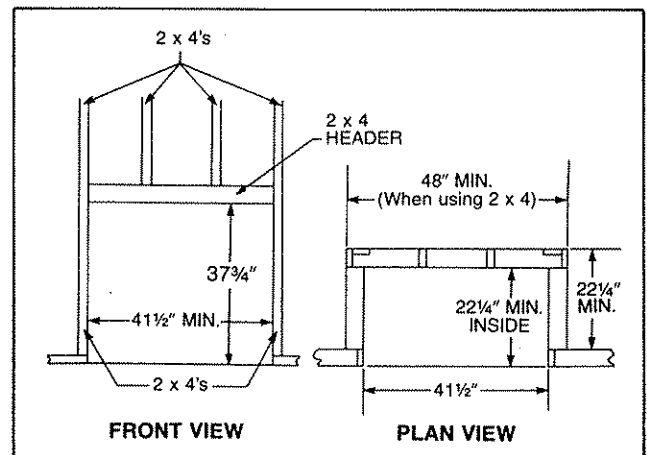
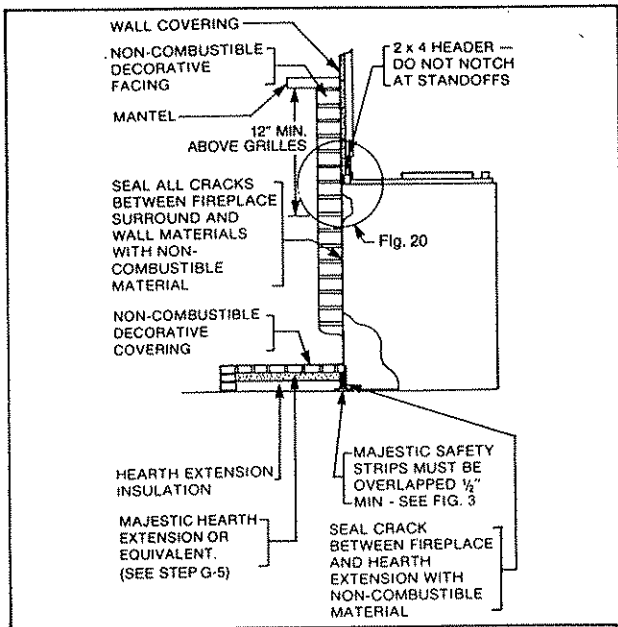

Fig. 18. Minimum fireplace enclosure dimensions.
Fig. 23. Sealing detail.
Fireplace framing can be built before or after the fireplace is set in place. Fig. 18 shows the minimum framing dimensions.
Framing should be positioned to accommodate wall covering and fireplace facing material. See Figs. 23 & 24 for typical arrangements. Nailing flanges provided on the side of the fireplace can be used to position the fireplace for a 5/8" finished wall covering, as well as anchor the fireplace. Using pliers, bend out the two (2) nailing flanges on each side, parallel with the fireplace surround. Nail through the flanges into the vertical framing members. (See Fig. 18)